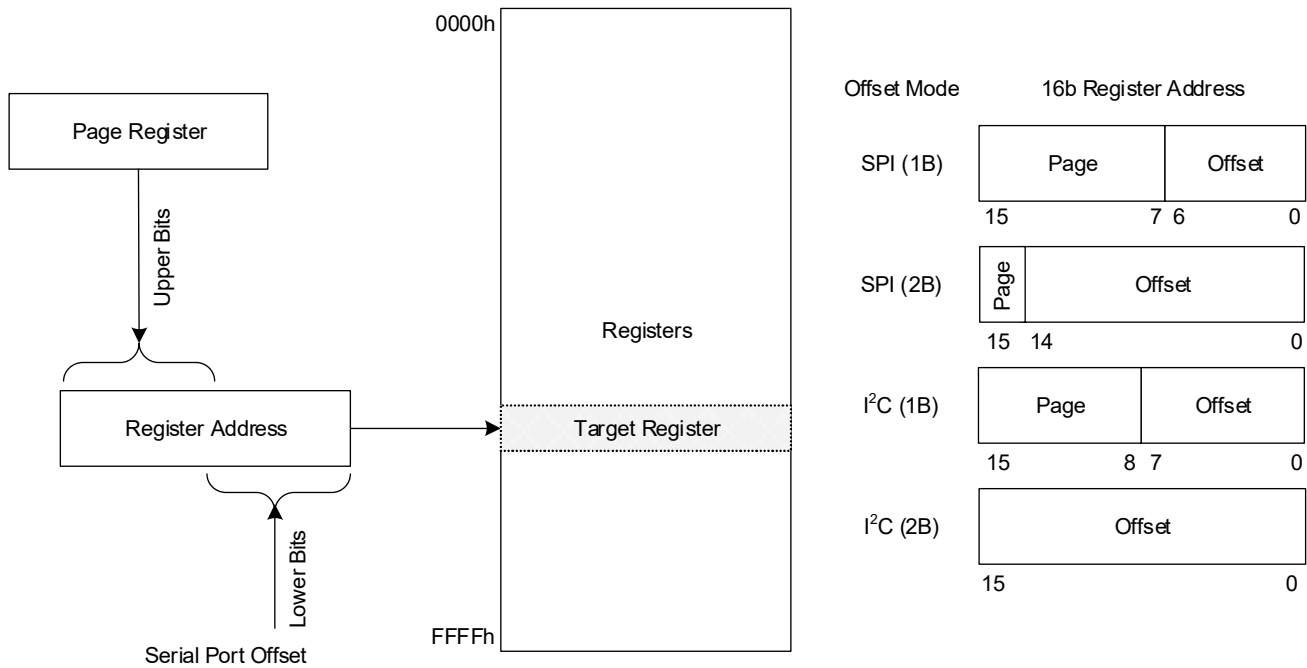

Figure 11. Register Addressing Modes Using Serial Port
You can choose to operate the serial port providing the full offset address within each burst, or to operate in a paged mode where part of the address offset is provided in each transaction and another part comes from an internal page register in each serial port. Figure 11 shows how page register and offset bytes from each serial transaction interact to address a register within the RC32312, RC32308.
The selection of 1-byte (1B) or 2-byte (2B) offset addressing must also be configured using the `ssi_addr_size` register field. These offsets are used in conjunction with the page register to access registers internal to the device (see Figure 11). Because the I²C protocol already includes a read/write bit with the Dev Addr, all bits of the 1B or 2B offset field can be used to address internal registers.
- 1-byte (1B) or 2-byte (2B) offset addressing (*ssi_addr_size*) (see Figure 11)